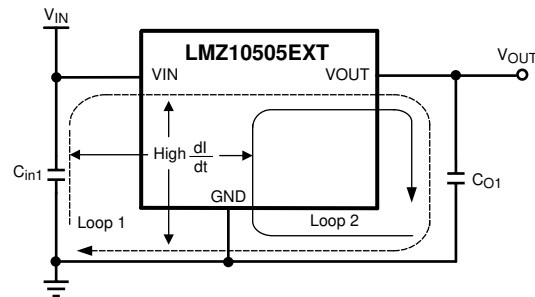

Figure 29. Critical Current Loops to Minimize
From an EMI reduction standpoint, it is imperative to minimize the high di/dt current paths. The high current that does not overlap contains high di/dt, see Figure 29. Therefore physically place input capacitor (C_{in1}) as close as possible to the LMZ10504EXT VIN pin and GND exposed pad to avoid observable high-frequency noise on the output pin. This will minimize the high di/dt area and reduce radiated EMI. Additionally, grounding for both the input and output capacitor should consist of a localized top side plane that connects to the GND exposed pad (EP).